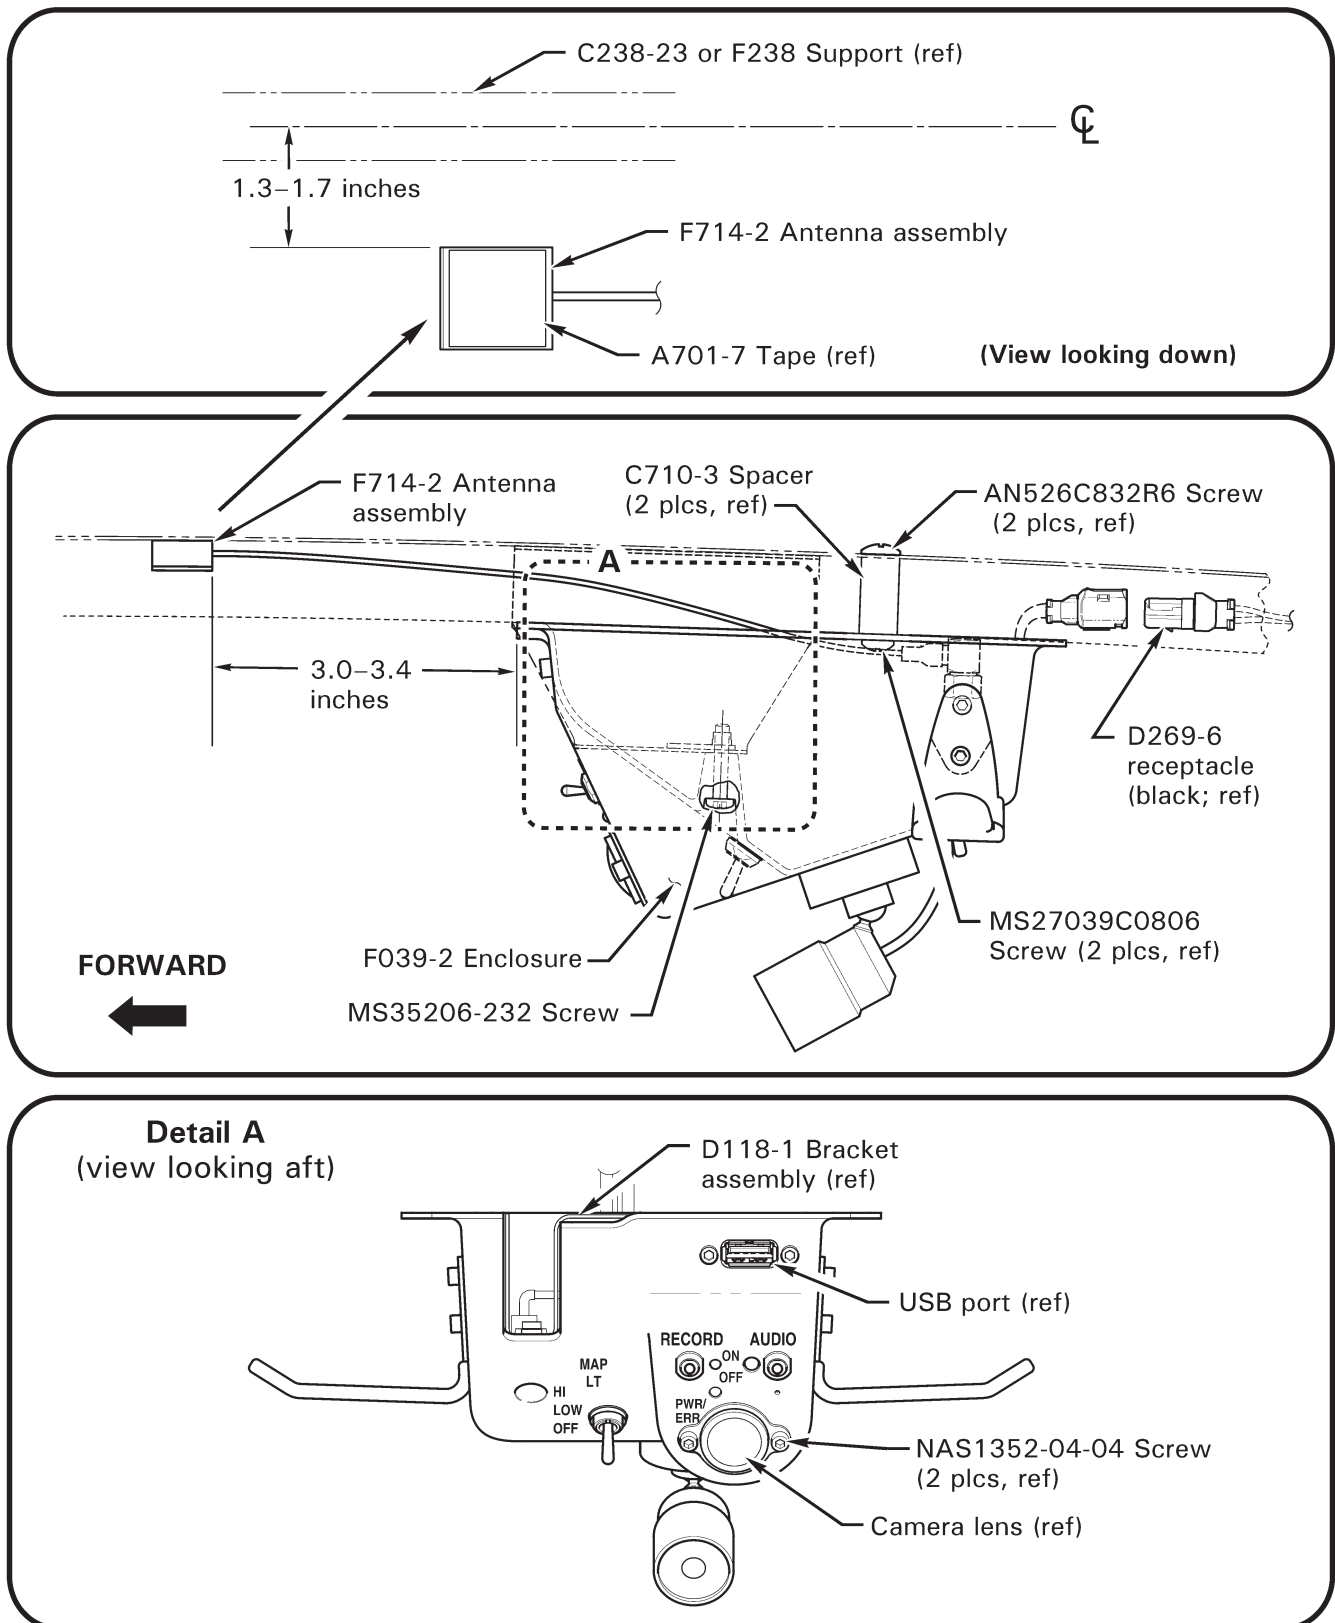
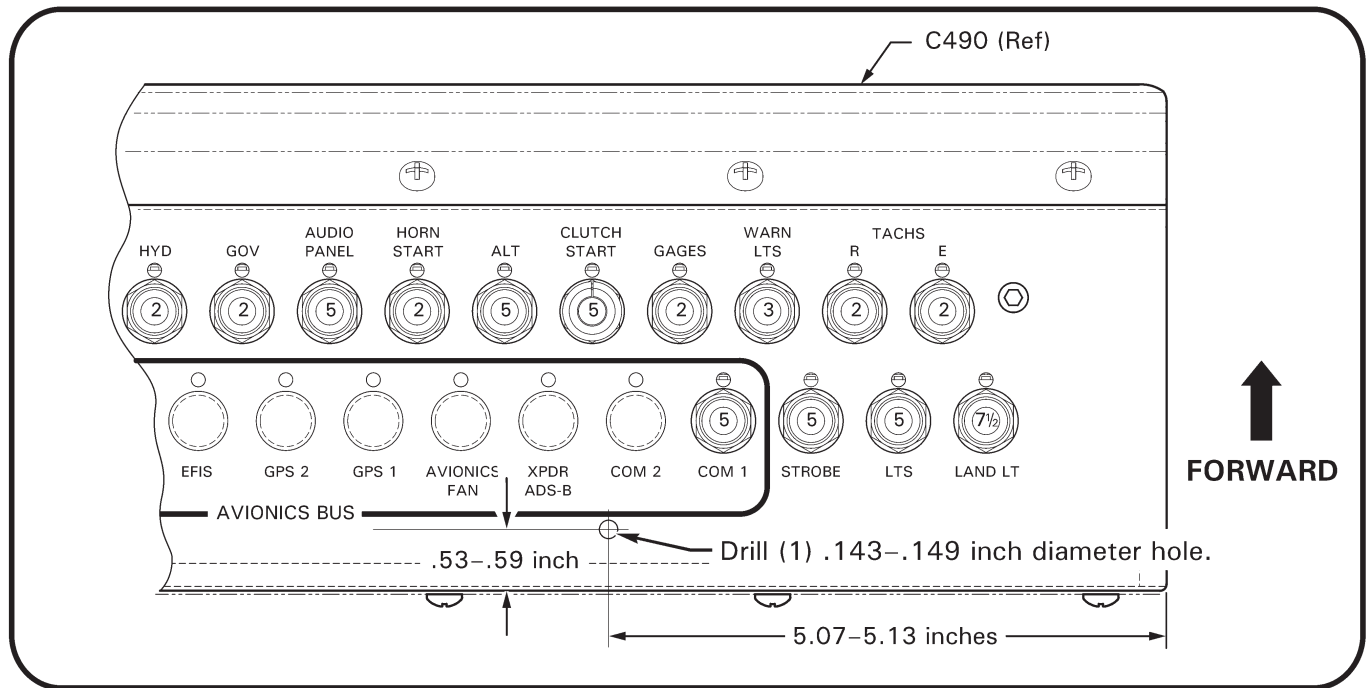
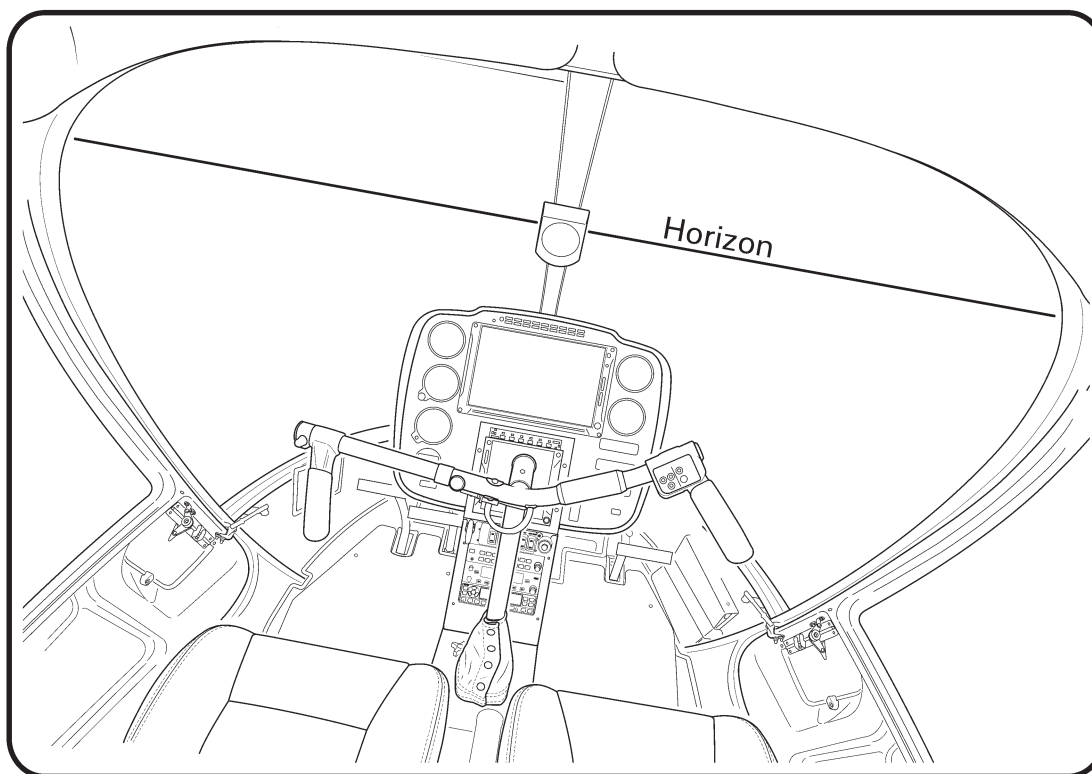

FIGURE 3 Enclosure and antenna installation
FIGURE 4A Locating screw installation hole
FIGURE 7 Camera view angle
7. Refer to Figure 3. Carefully separate headliner from roof only as necessary to access antenna installation location. Connect D269-6 receptacle to camera plug in F039-2 enclosure assembly. Connect F714-2 antenna assembly to fitting in enclosure assembly and route cable forward. Position antenna with metal side down, 3.0–3.4 inches forward from enclosure, with inboard edge of antenna 1.3-1.7 inches left of helicopter centerline. Remove backing from tape on antenna and press in place on roof.
8. As required, install headliner to roof using B270-8 adhesive, tucking antenna wire inside headliner. Install enclosure assembly to C710-3 spacers using (2) MS27039C0806 screws, and to D118-1 bracket assembly using MS35206-232 screw. Secure enclosure wires to existing wires using appropriately-sized ty-raps. Cinch ty-raps until snug without over-tightening, and trim tips flush with head.
9. Refer to Figures 4A & 4B. Locate and drill (1) 0.143–0.149 inch diameter hole in C490 circuit breaker panel assembly using drill stop. Deburr hole and clean up debris. Position KI-275-ALL fuse block assembly on panel assembly with wire (-3078) outboard, and install using (1) MS35206-227 screw, (1) NAS1149FN616P washer under screw head, and (1) MS21042L06 nut. Select available location on main bus bar and trim wire (-3078) to length. Strip wire and install B260-2 ring terminal. Verify security of ring terminal. Remove existing installation screw and lockwasher from selected location; discard screw and retain lockwasher. Secure ring terminal to bus bar using new MS35206-226 screw and retained lockwasher.
- b. Refer to Figure 3. Insert F714-4 flash drive assembly to USB port of F039-2 enclosure. Toggle helicopter battery switch ON for minimum 30 seconds; video will record automatically. While video is recording, activate & route an audio source (such as ATIS) to copilot headset. Toggle helicopter battery switch OFF.
- d. If horizon slants to the right (as shown in Figure 7), adjust angle by loosening two NAS1352-04-04 screws holding lens (see Figure 3) and rotate lens counterclockwise while facing lens; if horizon slants to the left, rotate lens clockwise. Tighten screws. Repeat steps 2 & 3.